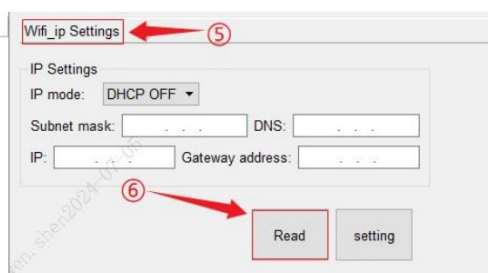

Fig.2
4. Select “wifi_ip Settings” and click “Read” to obtain IP information (shown in Figs.2 and 3).